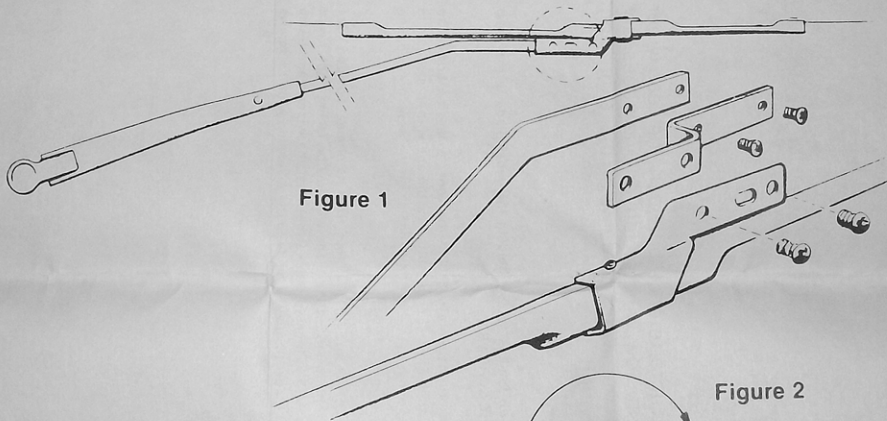

Figure 1
2. Using the two original screws mount the wiper extension bracket to the wiper arm as in Fig.1 . Be sure to screw the end with three holes to the wiper arm so that the center hole locates on the wiper arm locating pin.